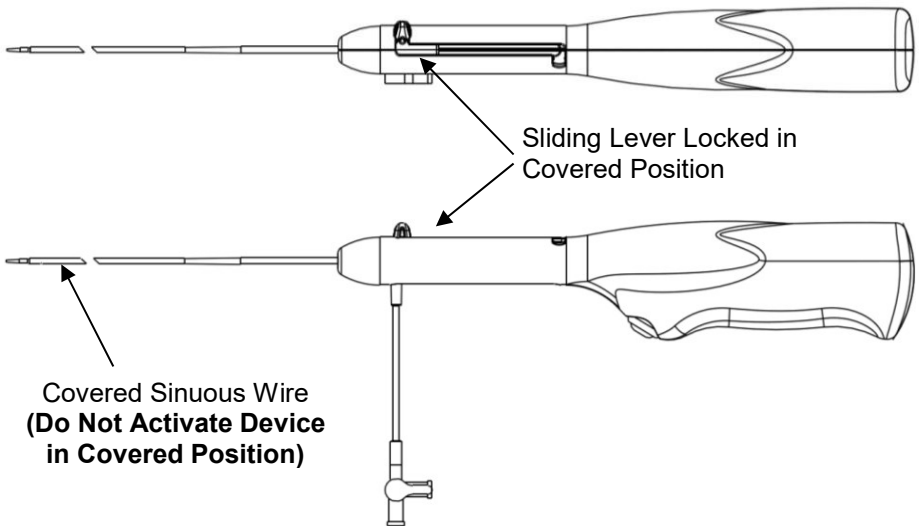

Figure 3
9. Place the device in the covered position by pushing the sliding lever to the distal position and rotating the sliding lever to lock in the covered position (refer to Figure 3). When in the covered position, only the flexible tip of the sinuous wire should extend from the catheter. **Warning: The device should not be activated in the covered position.**